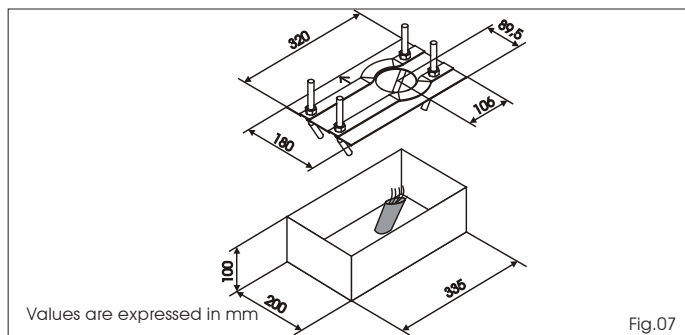

Fig.07
- 3- After determining the position of the foundation plate, make a plinth as shown in Fig. 07 and wall the plate, providing several sheaths for routing the cables. Using a spirit level, check if the plate is perfectly level. Wait for the cement to set.